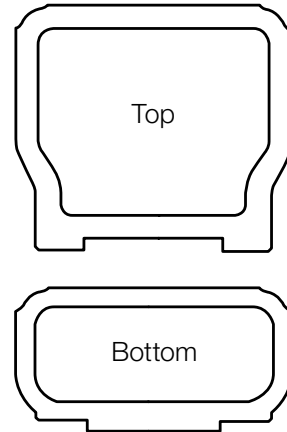

fig. 1
- One Classic rail kit (fig. 1), which contains:
- One Classic stair rail kit (fig. 1), which contains: